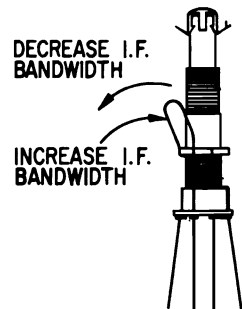

FIGURE 4
- To narrow the I.F. response curve, pull the loop away from the primary of T211 (top). Repeat Steps 2 through 5 of the Video I.F. Alignment. See Figure 4.
- To broaden the I.F. response curve, press the loop toward the primary of T211 (top). Repeat Steps 2 through 5 of the Video I.F. Alignment. See Figure 4.